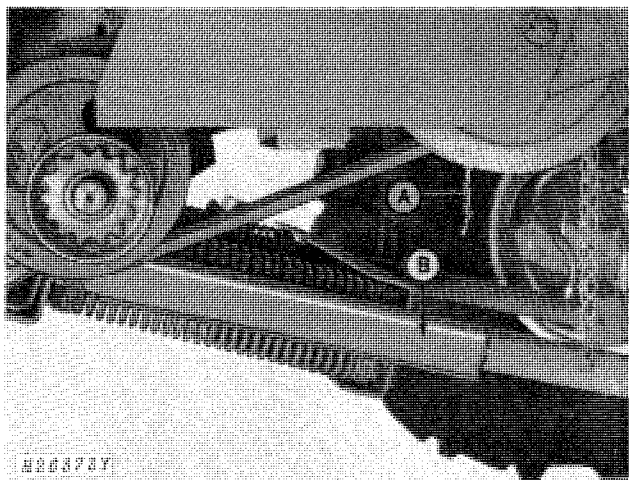

Fig. 78-Lowering Safety Stop
3. Disconnect chain "A" and lower hydraulic cylinder safety stop "B" on piston rod (Fig. 78).